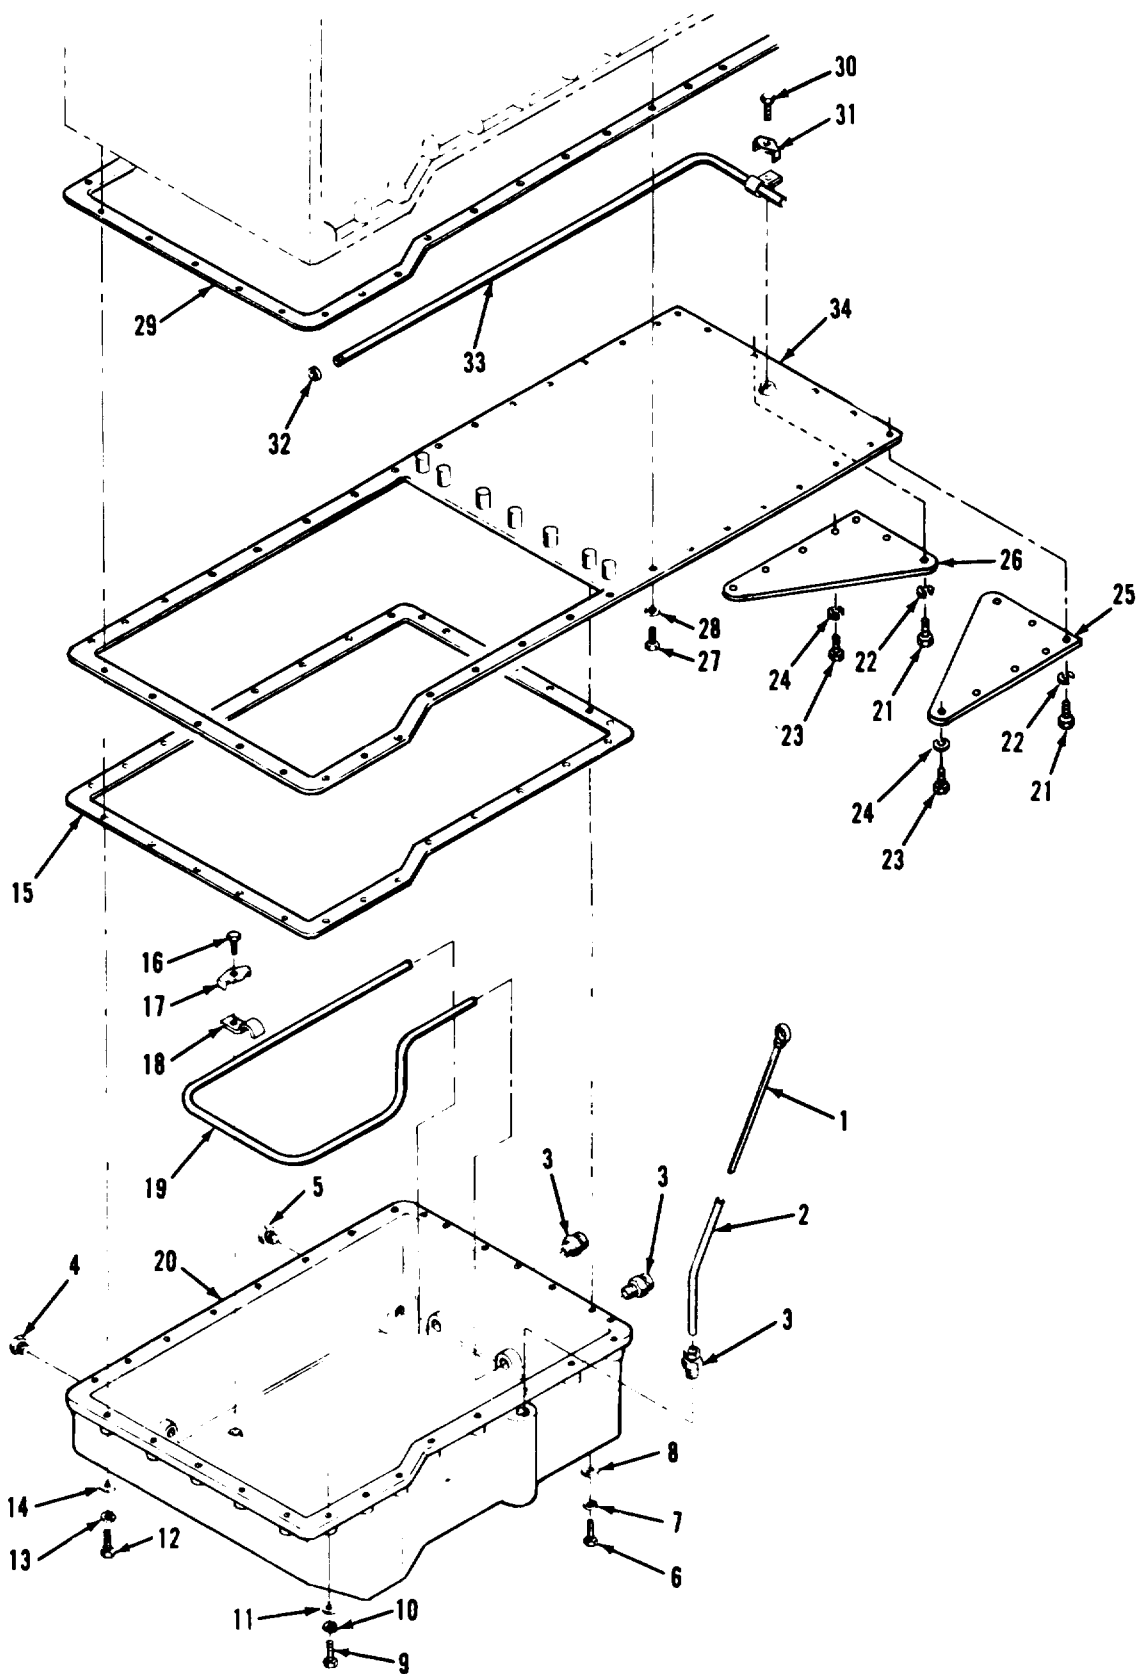

Figure 8-50. Oil pan group and related parts, exploded view
- e. Refer to figure 8-50, and remove oil pan group as follows:
1. Remove bolts (6, 9, and 12), lockwashers (7, 10, and 13), and washers (8, 11, and 14). Remove pan (20) and gasket (15).
3. Remove bolts (27), lockwashers (28), plate assembly (34), and gasket (29).
Refer to figure 8-50 and disassemble oilpan group in the order of index numbers assigned.
- c. Flush tube (2, figure 8-50) with an approved cleaning solvent, and dry thoroughly.
- d. Flush tube (19) with an approved cleaning solvent to remove encrusted calcium deposits, and dry thoroughly.
- b. Inspect scavenge tube (33, figure 8-50) to ensure that tube is open throughout its length.
Legend to figure 8-50:
Refer to figure 8-50 and reassem-
a. Refer to figure 8-50 and install oil
- e. Refer to figure 8-50 and remove bolts (6, 9, and 12), lock washers (7, 10, and 13), and washers (8, 11, and 14). Remove oil pan (20) and gasket (15). Discard gasket.